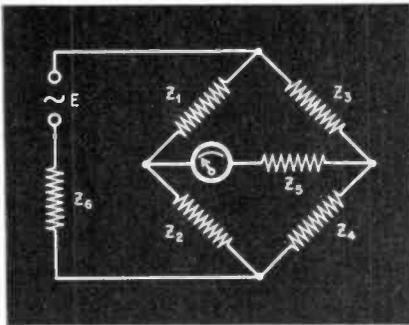

FIG. 1
**Solution:** Referring to Fig. 1, the con-